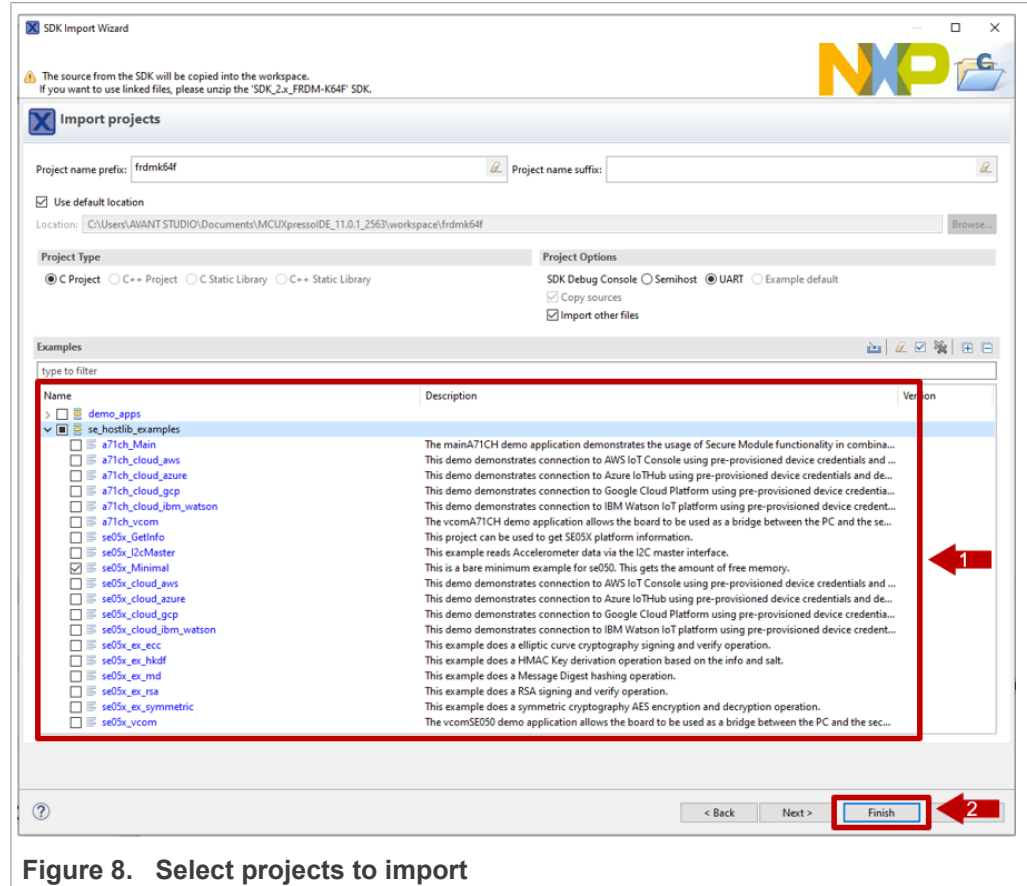

Figure 8. Select projects to import
- Under the `se_hostlib_examples` drop down list, you have the list of supported project examples for the FRDM-K64F. Select the examples you would like to import in your MCUXpresso workspace and click *Finish* button as shown in Figure 8. For the